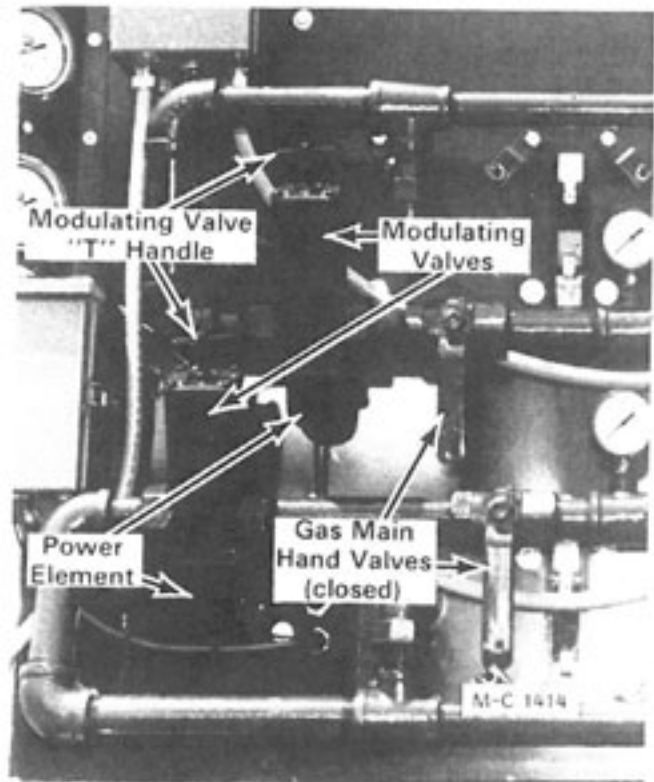

Figure 39 - Two Burner Controls
2. Close the gas main hand valve for each burner (handle 90° to the piping), see Figure 39.
Natural Gas - Open the supply valve. Close all hand valves, Figure 39.